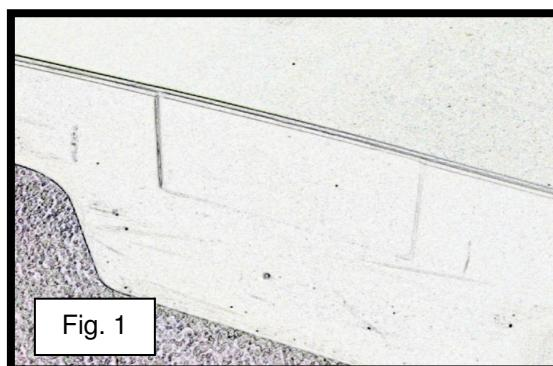

Fig. 1
- 1) Locate the indented rectangular area located on the **exterior surface** of the accumulation center (see fig. 1). This is the location Justrite Manufacturing recommends for placement of the Joining Clips.